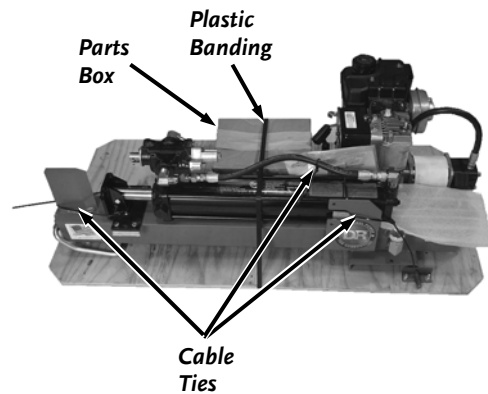

Figure 3
4. Cut the remaining banding strap and Cable Ties (tin cutters) (*Figure 3*).